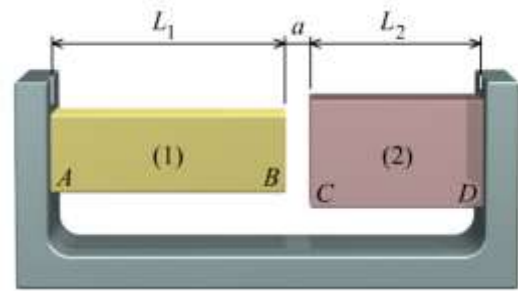

FIGURE P2.19
**P2.19** At a temperature of 60°F, a gap of  $a = 0.125$  in. exists between the two polymer bars shown in Figure P2.19. Bar (1) has a length of  $L_1 = 40$  in. and a coefficient of thermal expansion of  $\alpha_1 = 47 \times 10^{-6}/^\circ\text{F}$ . Bar (2) has a length of  $L_2 = 24$  in. and a coefficient of thermal expansion of  $\alpha_2 = 66 \times 10^{-6}/^\circ\text{F}$ , respectively. The supports at A and D are rigid. What is the lowest temperature at which the gap is closed?